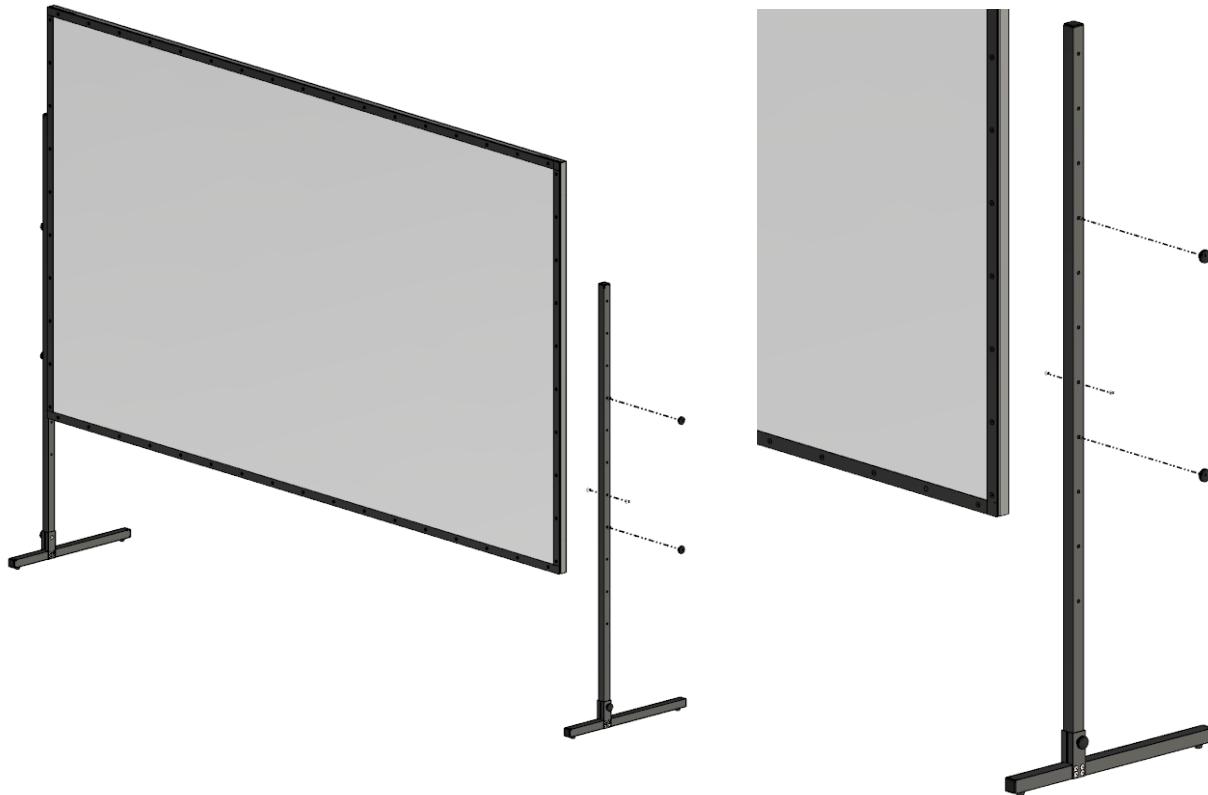

Figure 11: Attaching T-Stand Knobs
2. Use the T-Stand knobs provided to first attach the vertical members to each base, then to attach the finished screen (frame/screen assembly) to the T-Stands. The through-holes on each vertical member should run parallel to the base (see Figure 11).